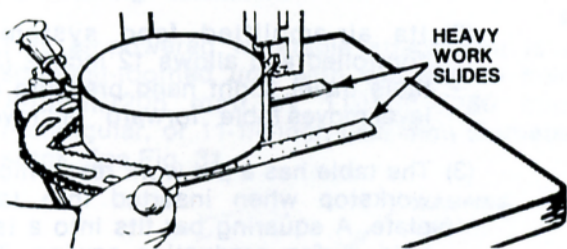

FIG. 24. HEAVY WORK SLIDES.
- (1) Slide bar with ball bearings are placed between table and heavy stock to reduce friction.
- (2) Insert a block in table's center hole to support stock at sawing point. Saw into block to establish a kerf or blade travel path. See Fig. 24.